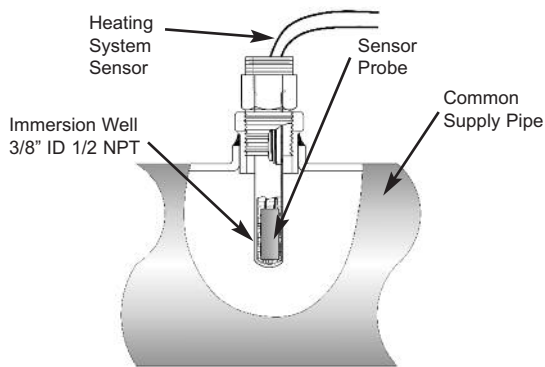

Fig. 19: System Sensor (S3)
4. Connect the FT_BUS wires to the PIM by pressing down on the slots with a small screwdriver and then inserting the wires into the holes. See Fig. 19.